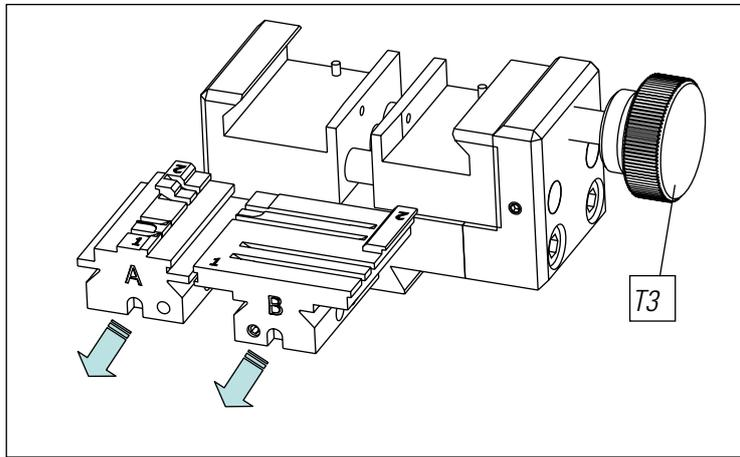

FIG. 20
- 2) Push the jaw(s) with your fingers from its rear part removing it towards the operator. (Fig. 20)